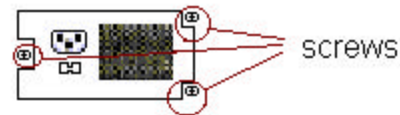

Figure 5
Step 6: Remove the three screws from the back of the case that are connected to the power supply (Figure 5). Carefully remove the power supply from the case. Do not lose the screws.
Step 8: Insert the new power supply and align it so its screw holes match up with the screw holes on the back of the computer case. Secure the power supply to the case using the three screws previously removed (Figure 5).